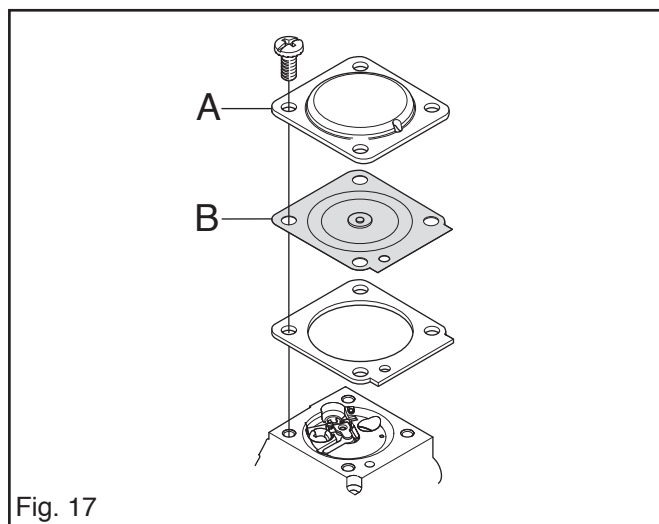

Fig. 17
7. Fit the control diaphragm (B) with gasket and cover (A) on the metering unit. See fig. 17.
8. Fit the axle on the air shutter (L) and connect the throttle actuator rod (N) in parallel with the ordinary throttle valve. The valve housing (P) is secured in the carburettor using two screws.